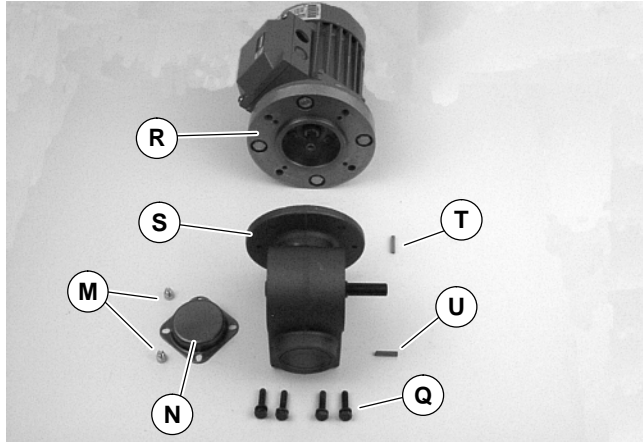

Figure 11
4. Remove four screws (Q of Figure 11). Detach motor (R) from gear reducer (S). Retain motor output shaft key (T).